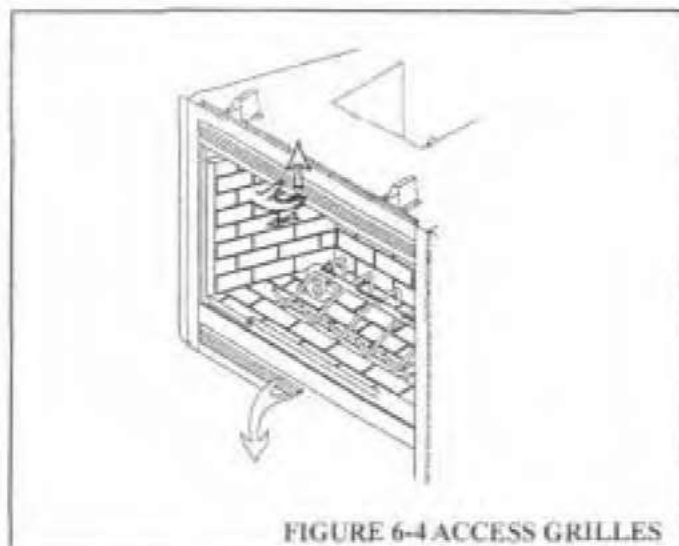

FIGURE 6-4 ACCESS GRILLES
2. Lower the upper grille away from the fireplace and pull it towards you. Refer to Figure 6-4.